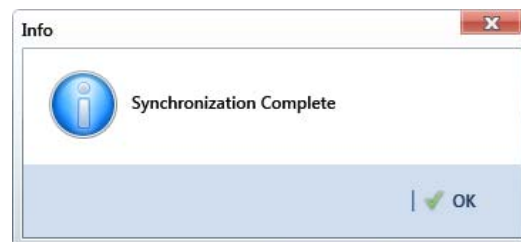

Figure 16-16. Synchronization Complete
- 2 Click  **OK** when the message *Synchronization Complete* displays to complete the process (Figure 16-16).